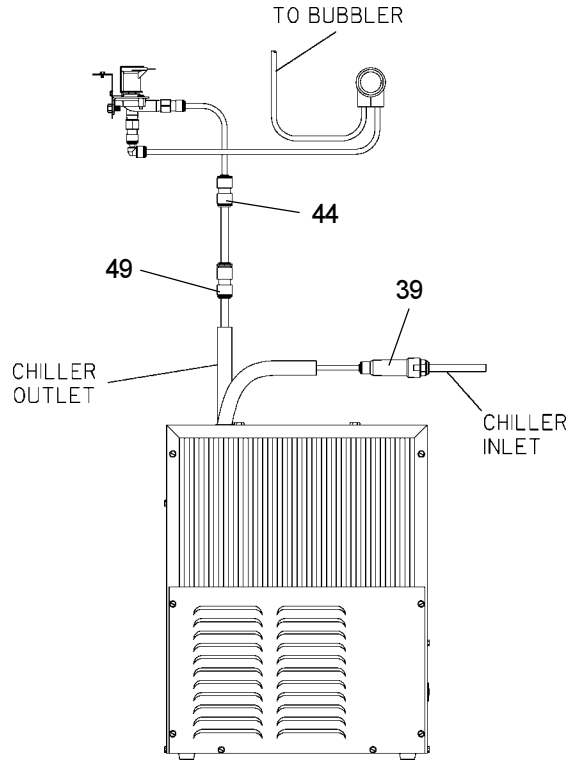

FIG. 5
5. **OVLER-EE, OVLSR-EE MODELS:** (Ref. Fig. 5) Make connection between remote chiller and building supply line. Remove the 3/8" x 1/4" union (item 44) from the chiller inlet tube and install the 3/8" x 3/8" union (item 49) on the chiller outlet tube. Install the strainer (item 39) on the chiller inlet tube. Install a 3/8" O.D unplated copper water line between the valve and the cooler. Remove all burrs from the outside of the water line. Insert the 3/8" water line into the inlet side of the strainer by pushing it in until it reaches a positive stop, approximately 3/4" (19mm). See Figures 1 and 2. **DO NOT SOLDER TUBES INSERTED INTO THE STRAINER AS DAMAGE TO THE O-RINGS MAY RESULT.**